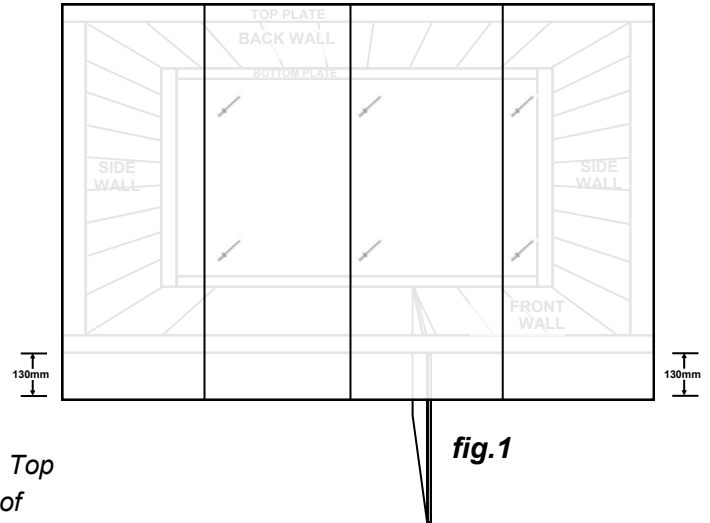

fig.1
- Check that the Bottom Plate is straight then nail the wall sheets to the Bottom Plate, two clouts per pan (see **fig. 1**).
- Position the Roof Sheets with front overhang of 130mm at each end (**fig. 1**).